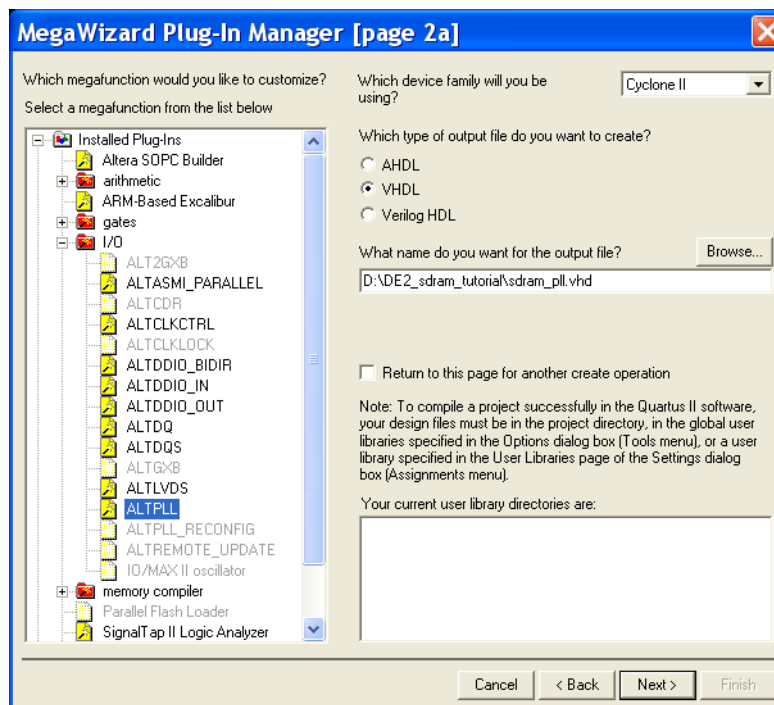

Figure 11. Select the megafunction and name the output file.
2. In the window in Figure 11, specify that Cyclone II is the device family used and that the circuit should be defined in VHDL. Also, specify that the generated output (VHDL) file should be called *sdram_pll.vhd*. From the list of megafunctions in the left box select I/O > ALTPLL. Click Next.